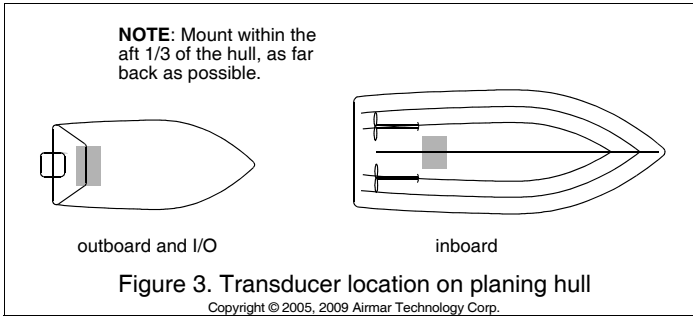

Figure 3. Transducer location on planing hull
- **Planing hull powerboat**— (see Figure 3)